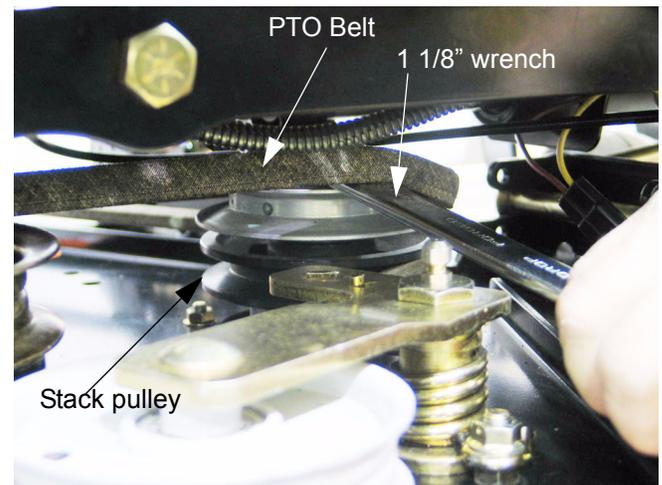

Figure 3.6
- 3.6. With the tension relieved, connect a 1 1/8" wrench to the bolt at the top of the stack pulley. Pass the wrench beneath the belt to reach the bolt. See Figure 3.6.